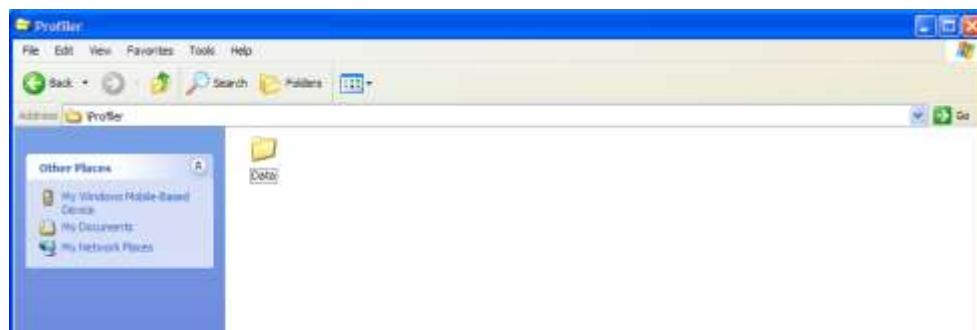

Figure 83: Profiler Data directory window.
- The user should now select the **Profiler** folder. This will access the Data directory (Figure 83).